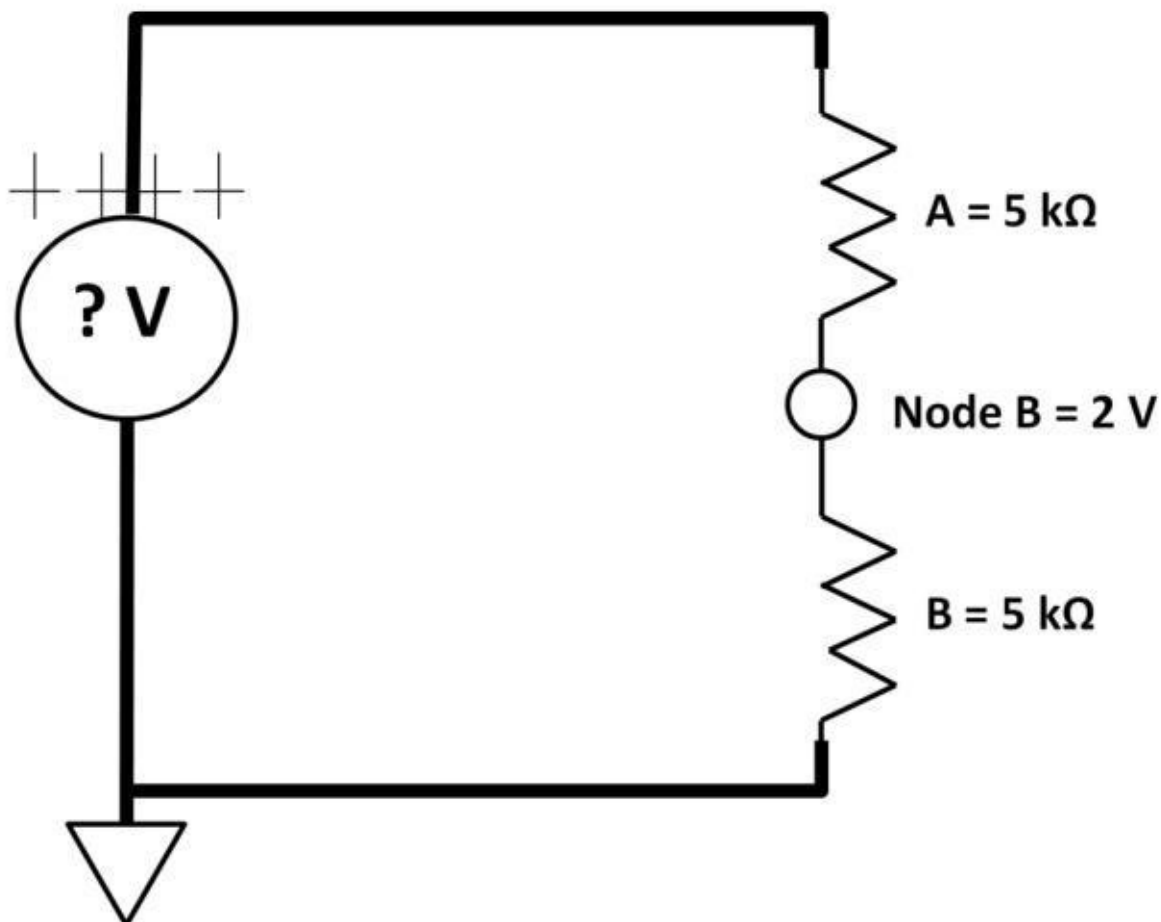

Figure 1.27:
4) What is the voltage at the ideal source, given the divider circuit in figure 1.27? This question tests your knowledge on a simple voltage divider where both resistors connected in series are same sizes. If voltage at node B is 2 V, the source would be twice as much, 4 V. The divider “divides” the source voltage by half with equal resistor sizes.